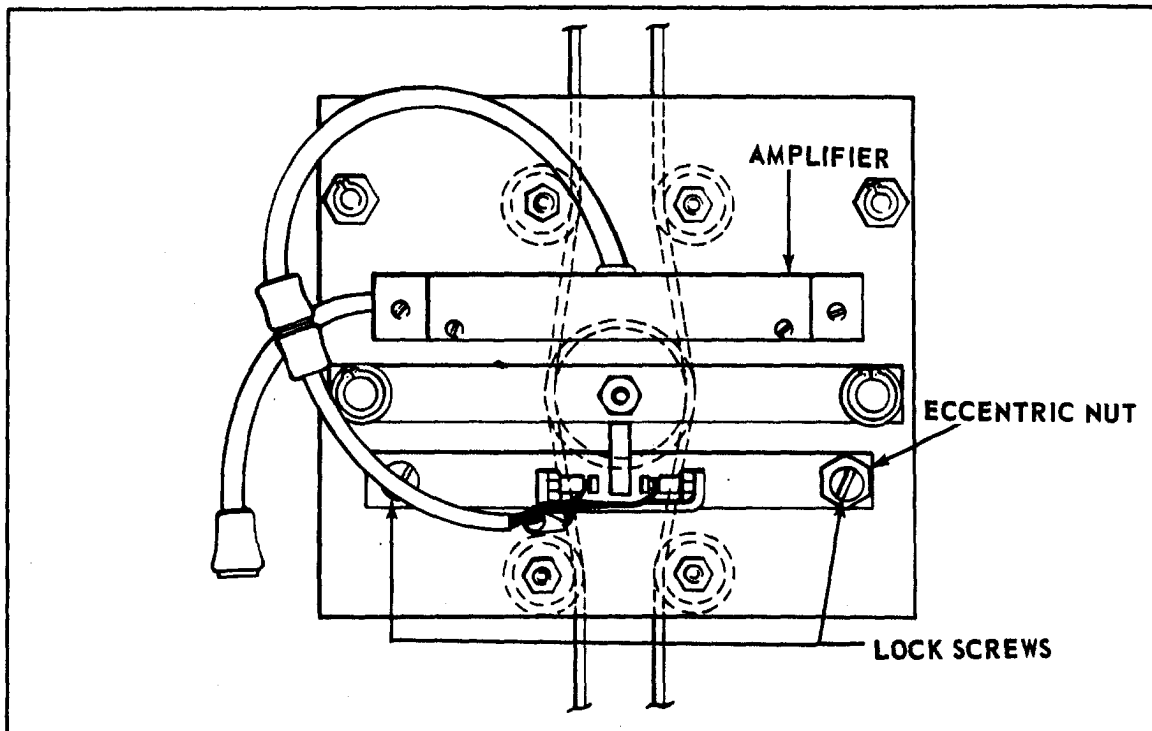

Figure 3-8. Plate Sensor with Amplifier
3-22. TRIM SENSOR CENTERING PROCEDURES AND TRIM AMPLIFIER DELAY CIRCUIT CHECK IN P.E.T.-1 AND P.E.T.-2 SYSTEMS. The two types of trim sensors used in Piper airplanes with the P.E.T.-1 and P.E.T.-2 Automatic Pitch Trim Systems are shown in illustration form in this section of the manual. (Refer to Figures 3-8 and 3-9.) When making trim sensor centering adjustments, it is very important to ascertain the type of sensor being adjusted and to follow the detailed instructions for that particular type sensor to avoid damage to the test equipment and the sensor. The procedure used to check for proper functioning of the trim amplifier delay circuit is incorporated in the trim sensor centering procedure instructions. This is done so both tests can be accomplished with the initial hook-up of test equipment.
c. Centering procedure for plate type trim sensor with amplifier. (Refer to Figure 3-8.)
- (a) Loosen both screws of the contact support bar. (Refer to Figure 3-8.)